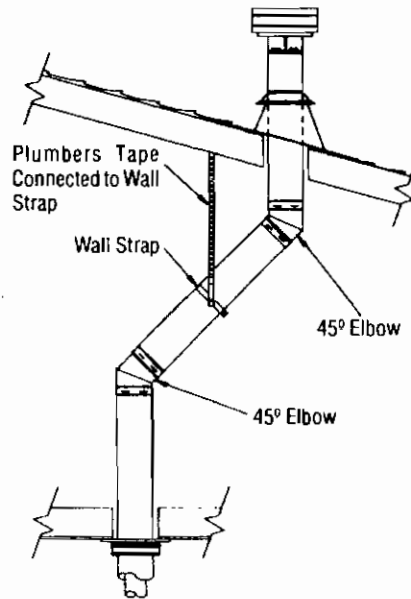

Figure 21
**A.** Set the gas appliance in its desired location. Drop a plumb bob down from the ceiling to the exit position of the first 90° elbow, and mark the location where the vent will penetrate the ceiling. Drill a small hole at this point. Next, drop a plumb bob from the underside of the roof to the hole previously drilled in the ceiling, and mark the spot where the vent will penetrate the roof. Determine if ceiling joists, roof rafters, or other framing will obstruct the venting system. You may wish to relocate the appliance, or to offset it, as shown in Figure 21, to avoid cutting load bearing members.
2. If an offset is necessary in the attic to avoid obstructions, it is important to support the vent pipe every 3 feet, to avoid excessive stress on the Elbows, and possible separation. Wall Straps Dura Vent Part No. 988, are available for this purpose (Figure 21).